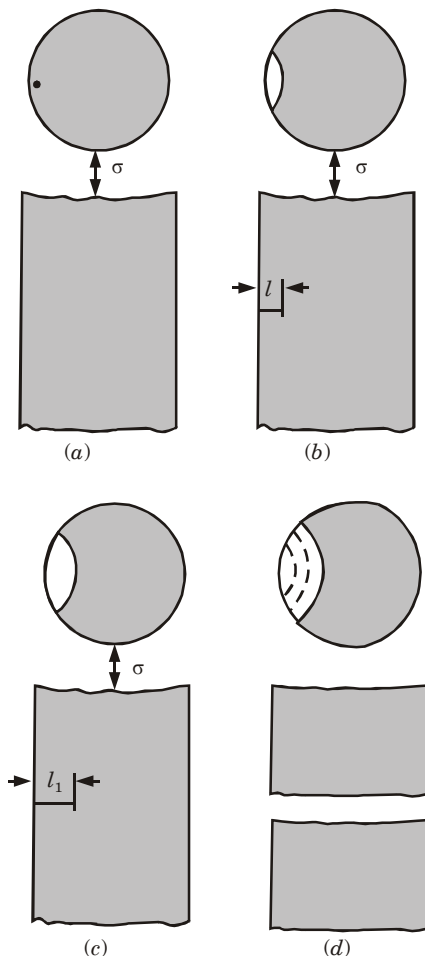

Fig. 2.15.1. Events leading to fatigue fracture.
Step 1 : Nucleation of Crack : Nucleation is caused when maximum stress $\sigma_{\max}$ fluctuates between tensile to compressive (within the elastic range) (Fig. 2.15.1 (a)).
Step 2 : Crack Growth : Crack grows to a microscopic size on continued load cycles. (Fig. 2.15.1 (b))
Step 3 : Crack Growing to Tiny Size : Crack becomes visible to the eyes after some times of continued load cycles. (Fig. 2.15.1 (c))
Step 4 : Fracture : When crack reaches to some critical size, resulting in reduced effective cross-sectional area of the material, results in fracture. (Fig. 2.15.1 (d))